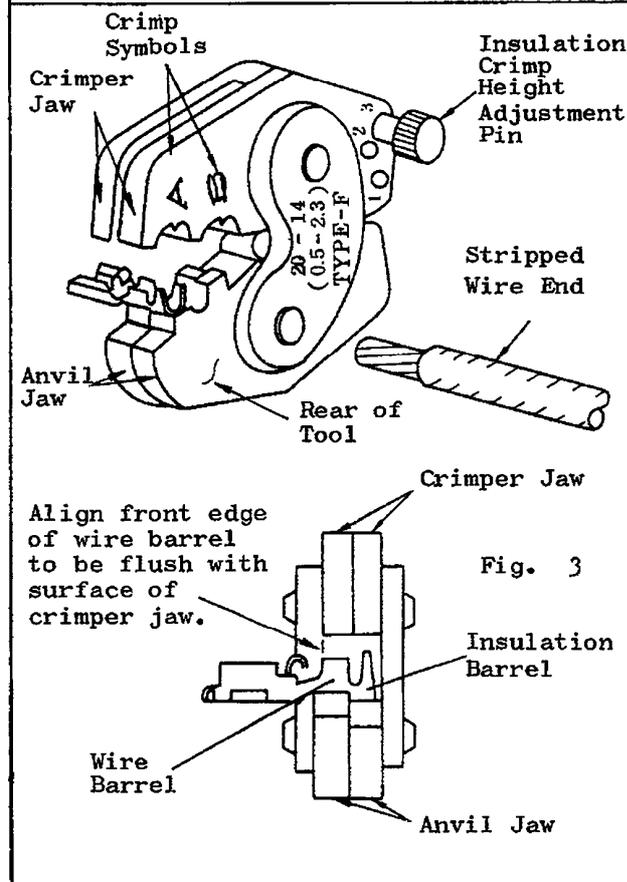

Fig. 3
- e) Insert contact with barrel side first, and align it in position shown in Fig. 3. And close handles lightly just enough to hold the contact in crimping die. NEVER DEFORM contact at this stage of crimping.